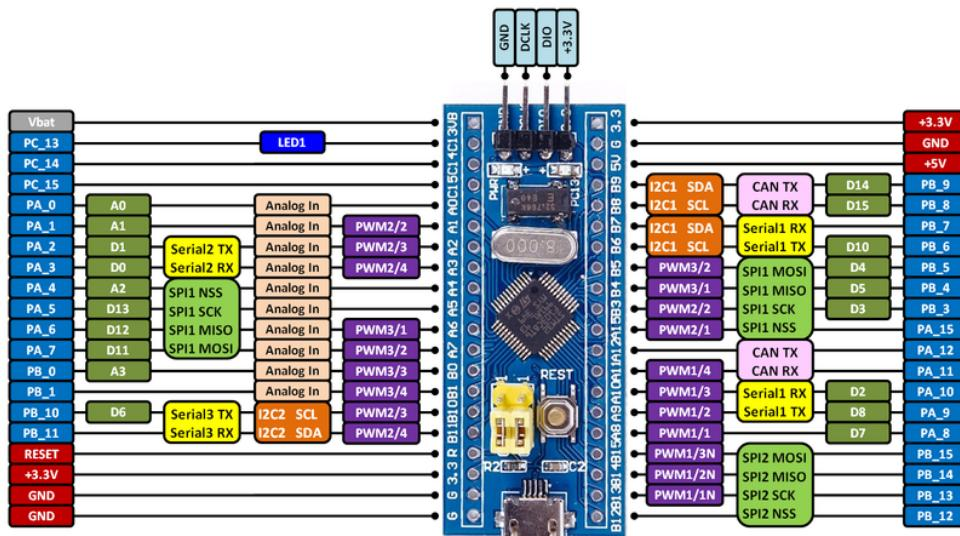

Fig. 11.1: Pin Connections of STM-32
- The STM32F103C8T6 micro-controller in Fig. 11.1 has two ground pins, few analog input pins and few digital pins that can be used for both input as well as output. It has one Vcc (3.3V) pin that can generate 3.3V. In the following exercises, only the GND, 3.3V and digital pins will be used.